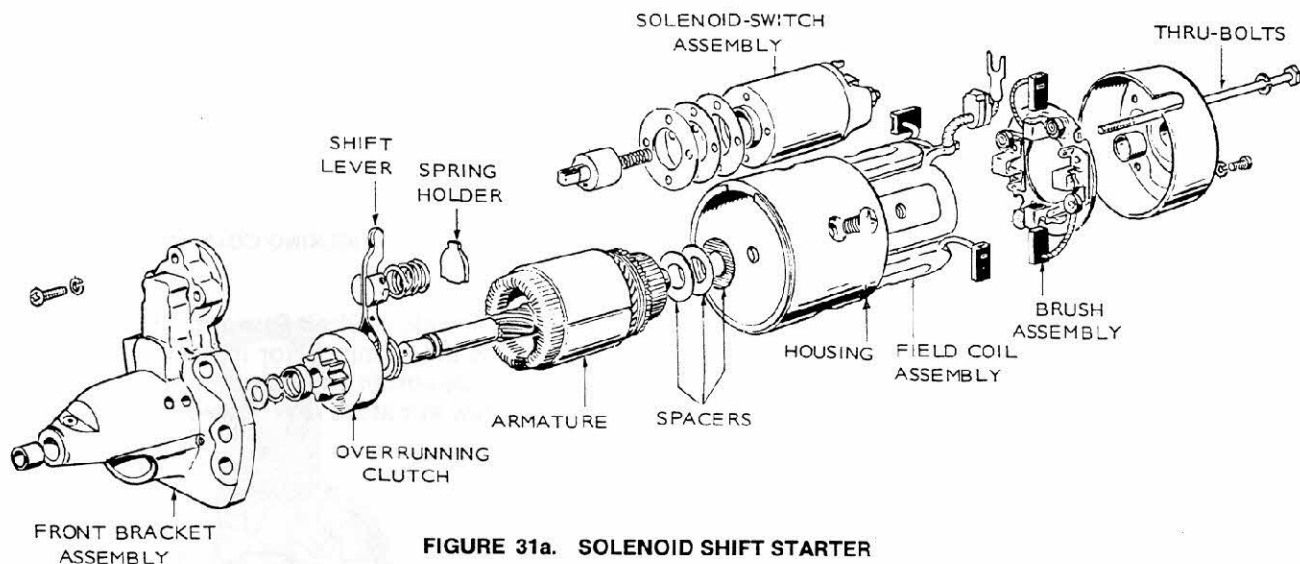

FIGURE 31a. SOLENOID SHIFT STARTER
4. **Solenoid Starter Only:** The armature can now be removed from the front bracket. Be careful not to miss the small steel washer used in the end of the armature shaft. Remove the shift lever at the same time the armature is removed. The spring holder, lever springs, and retainer can be removed prior to removing the lever (Figure 31a).